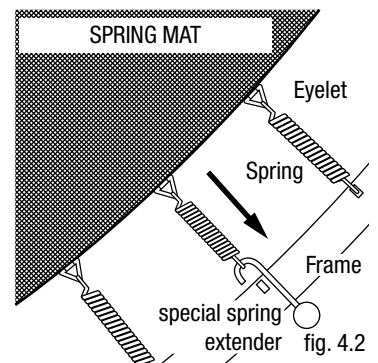

fig. 4.2
- Spread out the jumping mat (1) in the frame with the printed side turned upwards.
- Pick any point you wish on the frame tube (call it ZERO). Now attach a spring (7) in the same direction and at the same angle to the frame as shown in fig. 4.2. Hook the spring into an eyelet of the mat and turn it in the direction of the jumping mat.